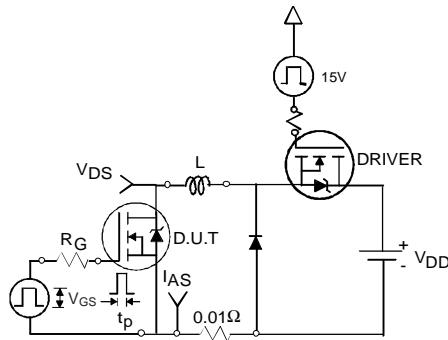

Fig 12a. Unclamped Inductive Test Circuit
- ④ Pulse width $\leq 400\mu\text{s}$; duty cycle $\leq 2\%$.
- ⑤ $C_{\text{oss eff.}}$ is a fixed capacitance that gives the same charging time as C_{oss} while V_{DS} is rising from 0 to 80% V_{DSS} .
- ⑥ Limited by $T_{J\text{max}}$, see Fig.12a, 12b, 15, 16 for typical repetitive avalanche performance.
- ⑦ This value determined from sample failure population. 100% tested to this value in production.
3. Equation below based on circuit and waveforms shown in Figures 12a, 12b.